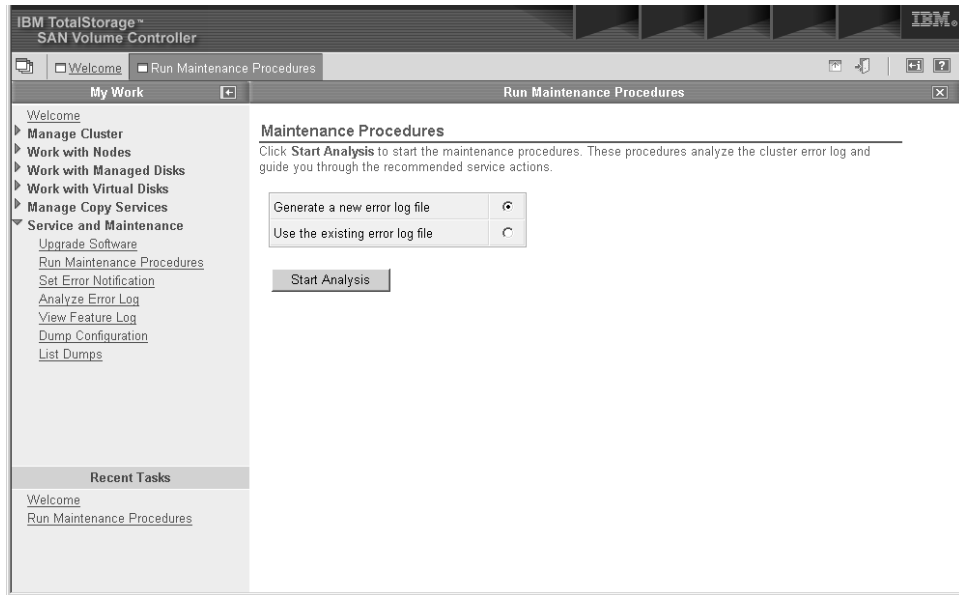

Figure 35. Example of what is displayed when you start the directed maintenance procedures
1. When directed maintenance procedures start, you will see what is displayed in Figure 35 on page 24.